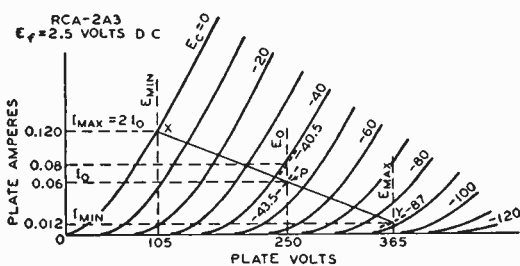

Fig. 20
Calculation of the **power output** of a triode used as a class A amplifier with either an output transformer or a choke having low dc resistance can be made without serious error from the plate family of curves by assuming a resistance load. The proper plate current, grid bias, optimum load resistance, and the per cent second-harmonic distortion can also be determined. The calculations are made graphically and are illustrated in Fig. 20 for given conditions. The procedure is as follows: (1) Locate the zero-signal bias point P by determining the zero-signal bias  $E_{c0}$  from the formula:
**Example:** Determine the load resistance, power output, and distortion of a triode having an amplification factor of 4.2, a plate-dissipation rating of 15 watts, and plate characteristics curves as shown in Fig. 20. The tube is to be operated at 250 volts on the plate.